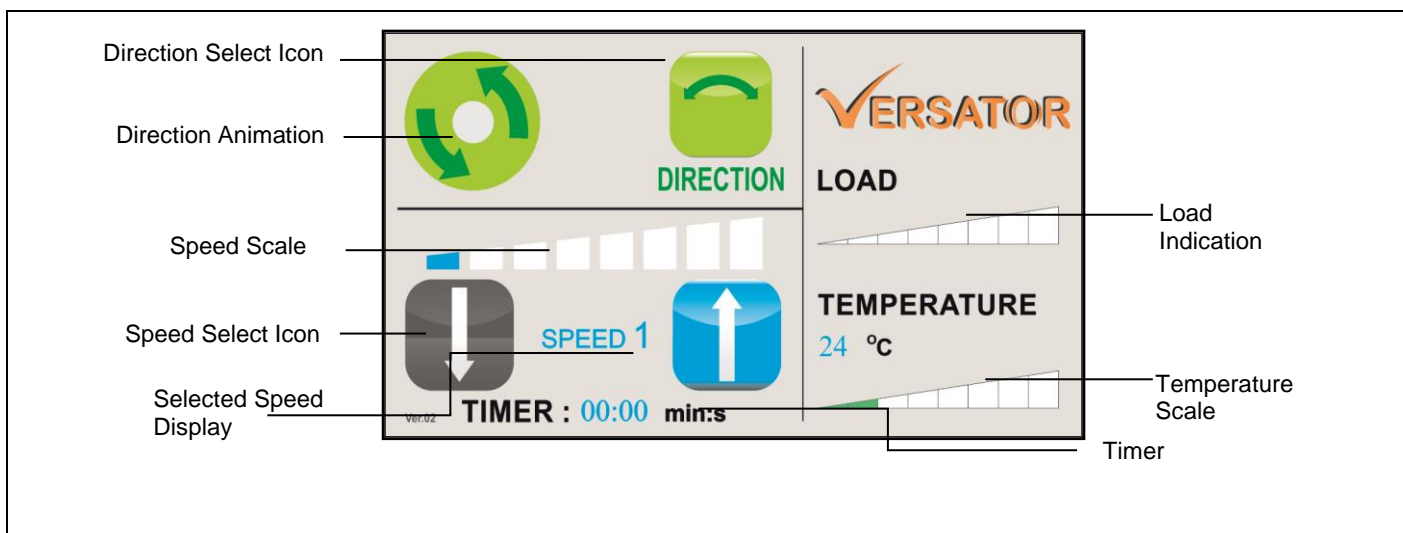

Figure 19: Touchscreen Display on the VDU
- 5.2.3.8 Select the direction of rotation of the cutter blade by tapping on . This is the Direction Select Icon (Figure 19). Depending on the direction selected, Direction Animation Icon will change. (The direction can also be changed while the cutter is rotating.)